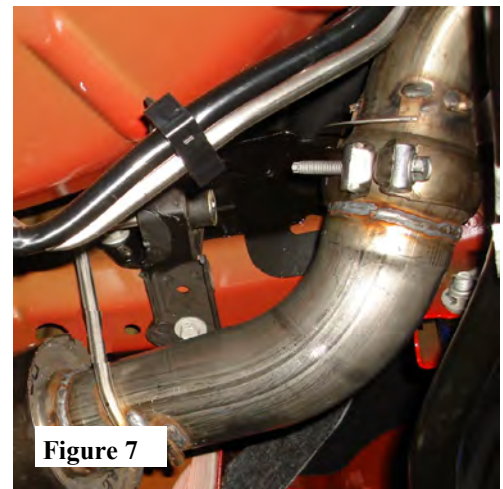

Figure 7
3. Place OE ball clamp over L/H Muffler Assembly and insert expanded end into L/H Over Axle Pipe. Insert hangars into OE rubber isolators and lightly tighten clamp. (See Fig. 7)